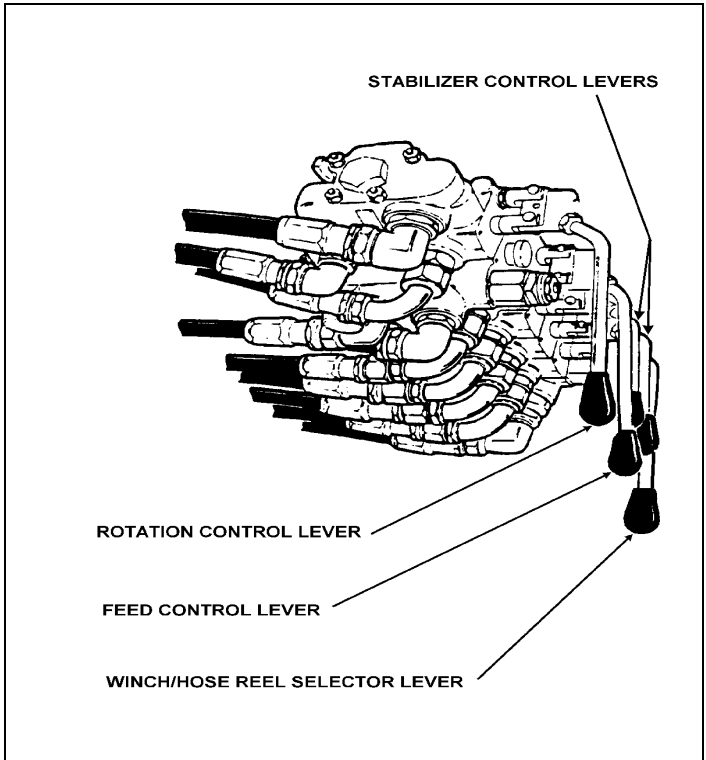

Fig 6-2-15 Selector Valve Levers
- a. ensure the winch/hose reel selector lever is centred (Fig 6-2-15);